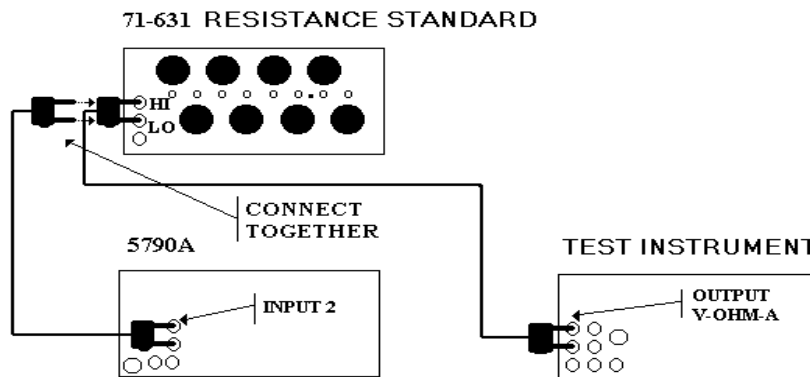

Figure 9. Ac current (1.0 mA and 100 μ A).
(1) Connect equipment as shown in figure 9. Set resistance standard dials to 000100.00. Press **INPUT 2** pushbutton on ac measurement standard.